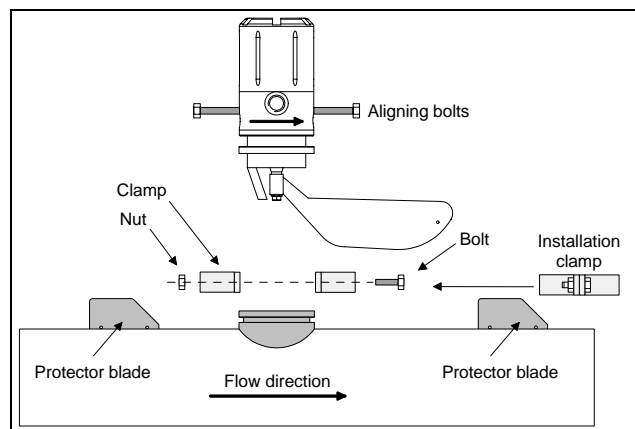

Figure 3. Installation of the sensor unit.
- ❑ Mount the sensor unit to the saddle with the enclosed clamp (fig. 3).
- ❑ Align the sensor blade exactly parallel to the pipe by using the alignment bolts included with the transmitter (fig. 3).